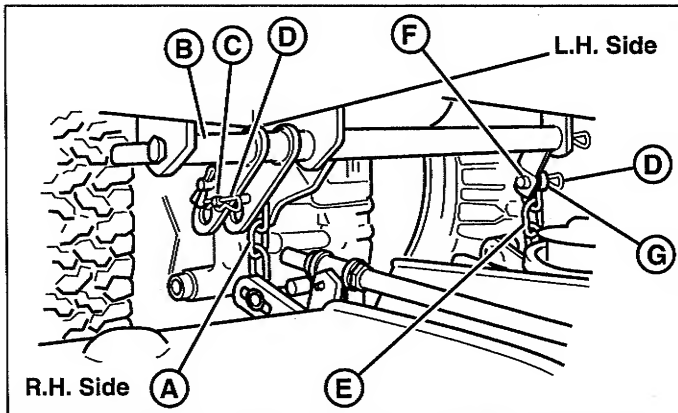

Figure 17. Mower Lift - Hydraulic Lift Models & 44"
- See Figure 17. Connect the mower lift chains (A & E) to the tractor lift arm (B) using the clevis pins, washers and safety clips. Install the shorter clevis pin (F) on the left side as shown.